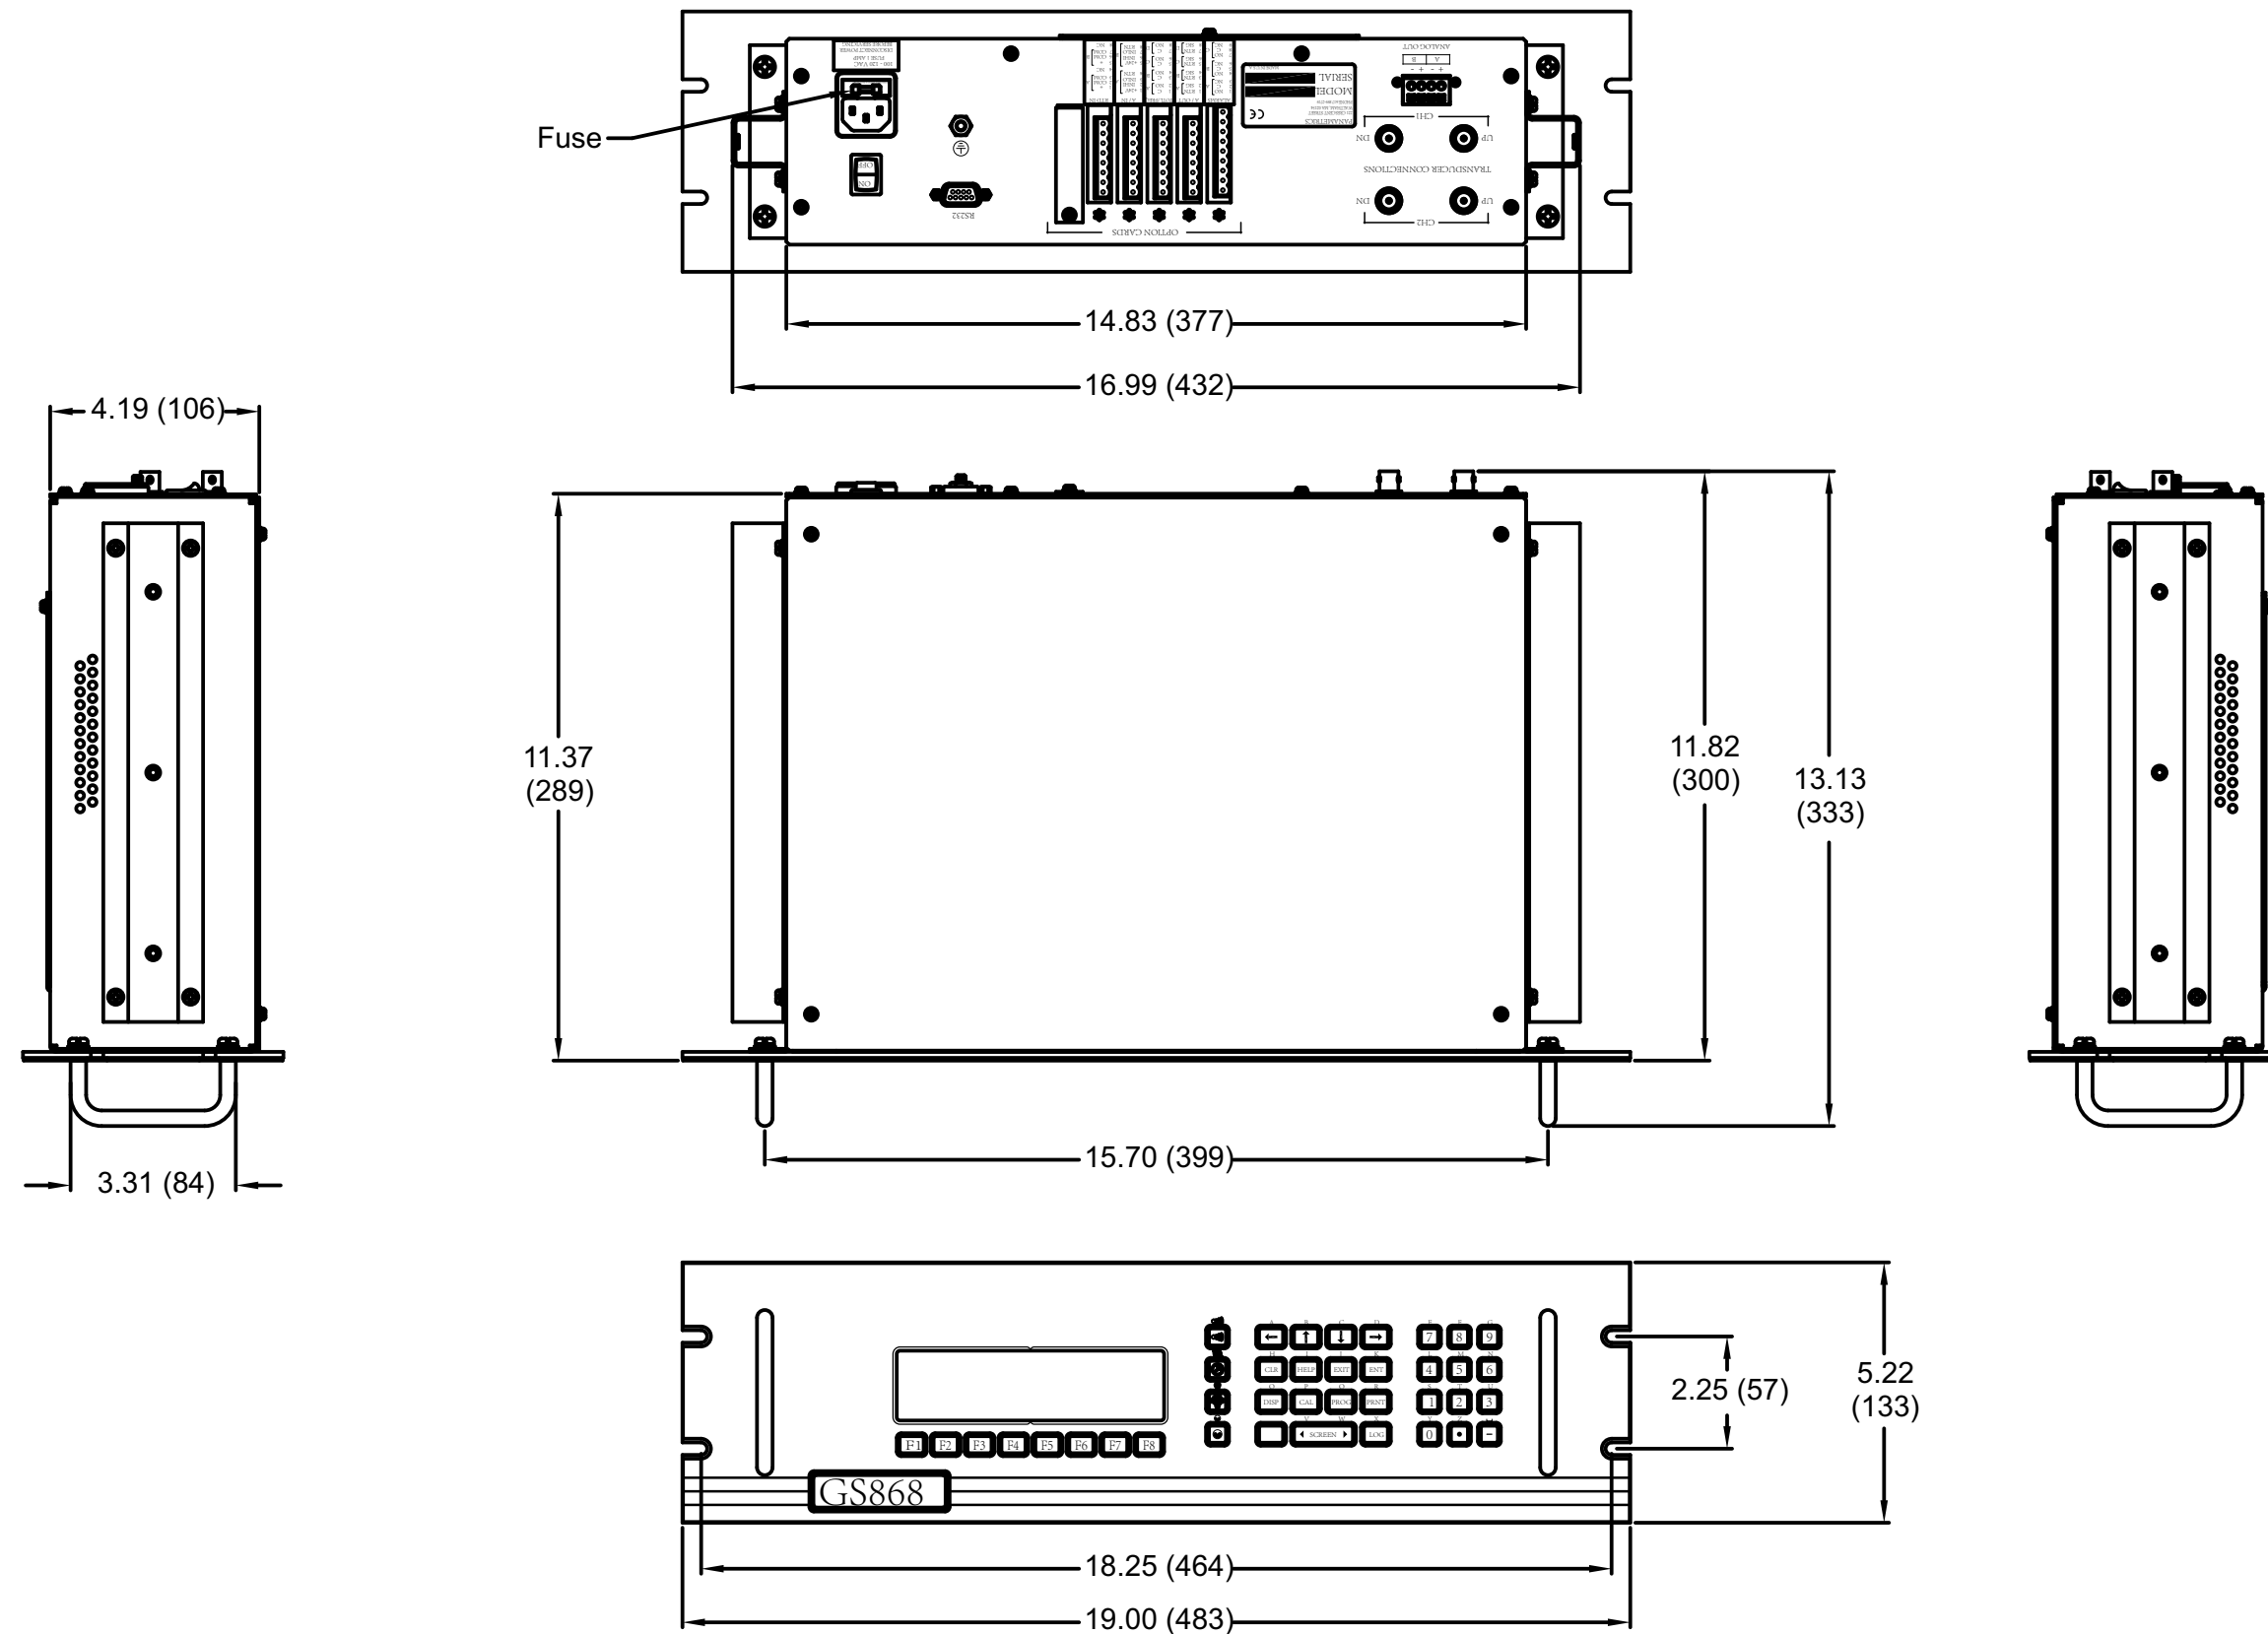
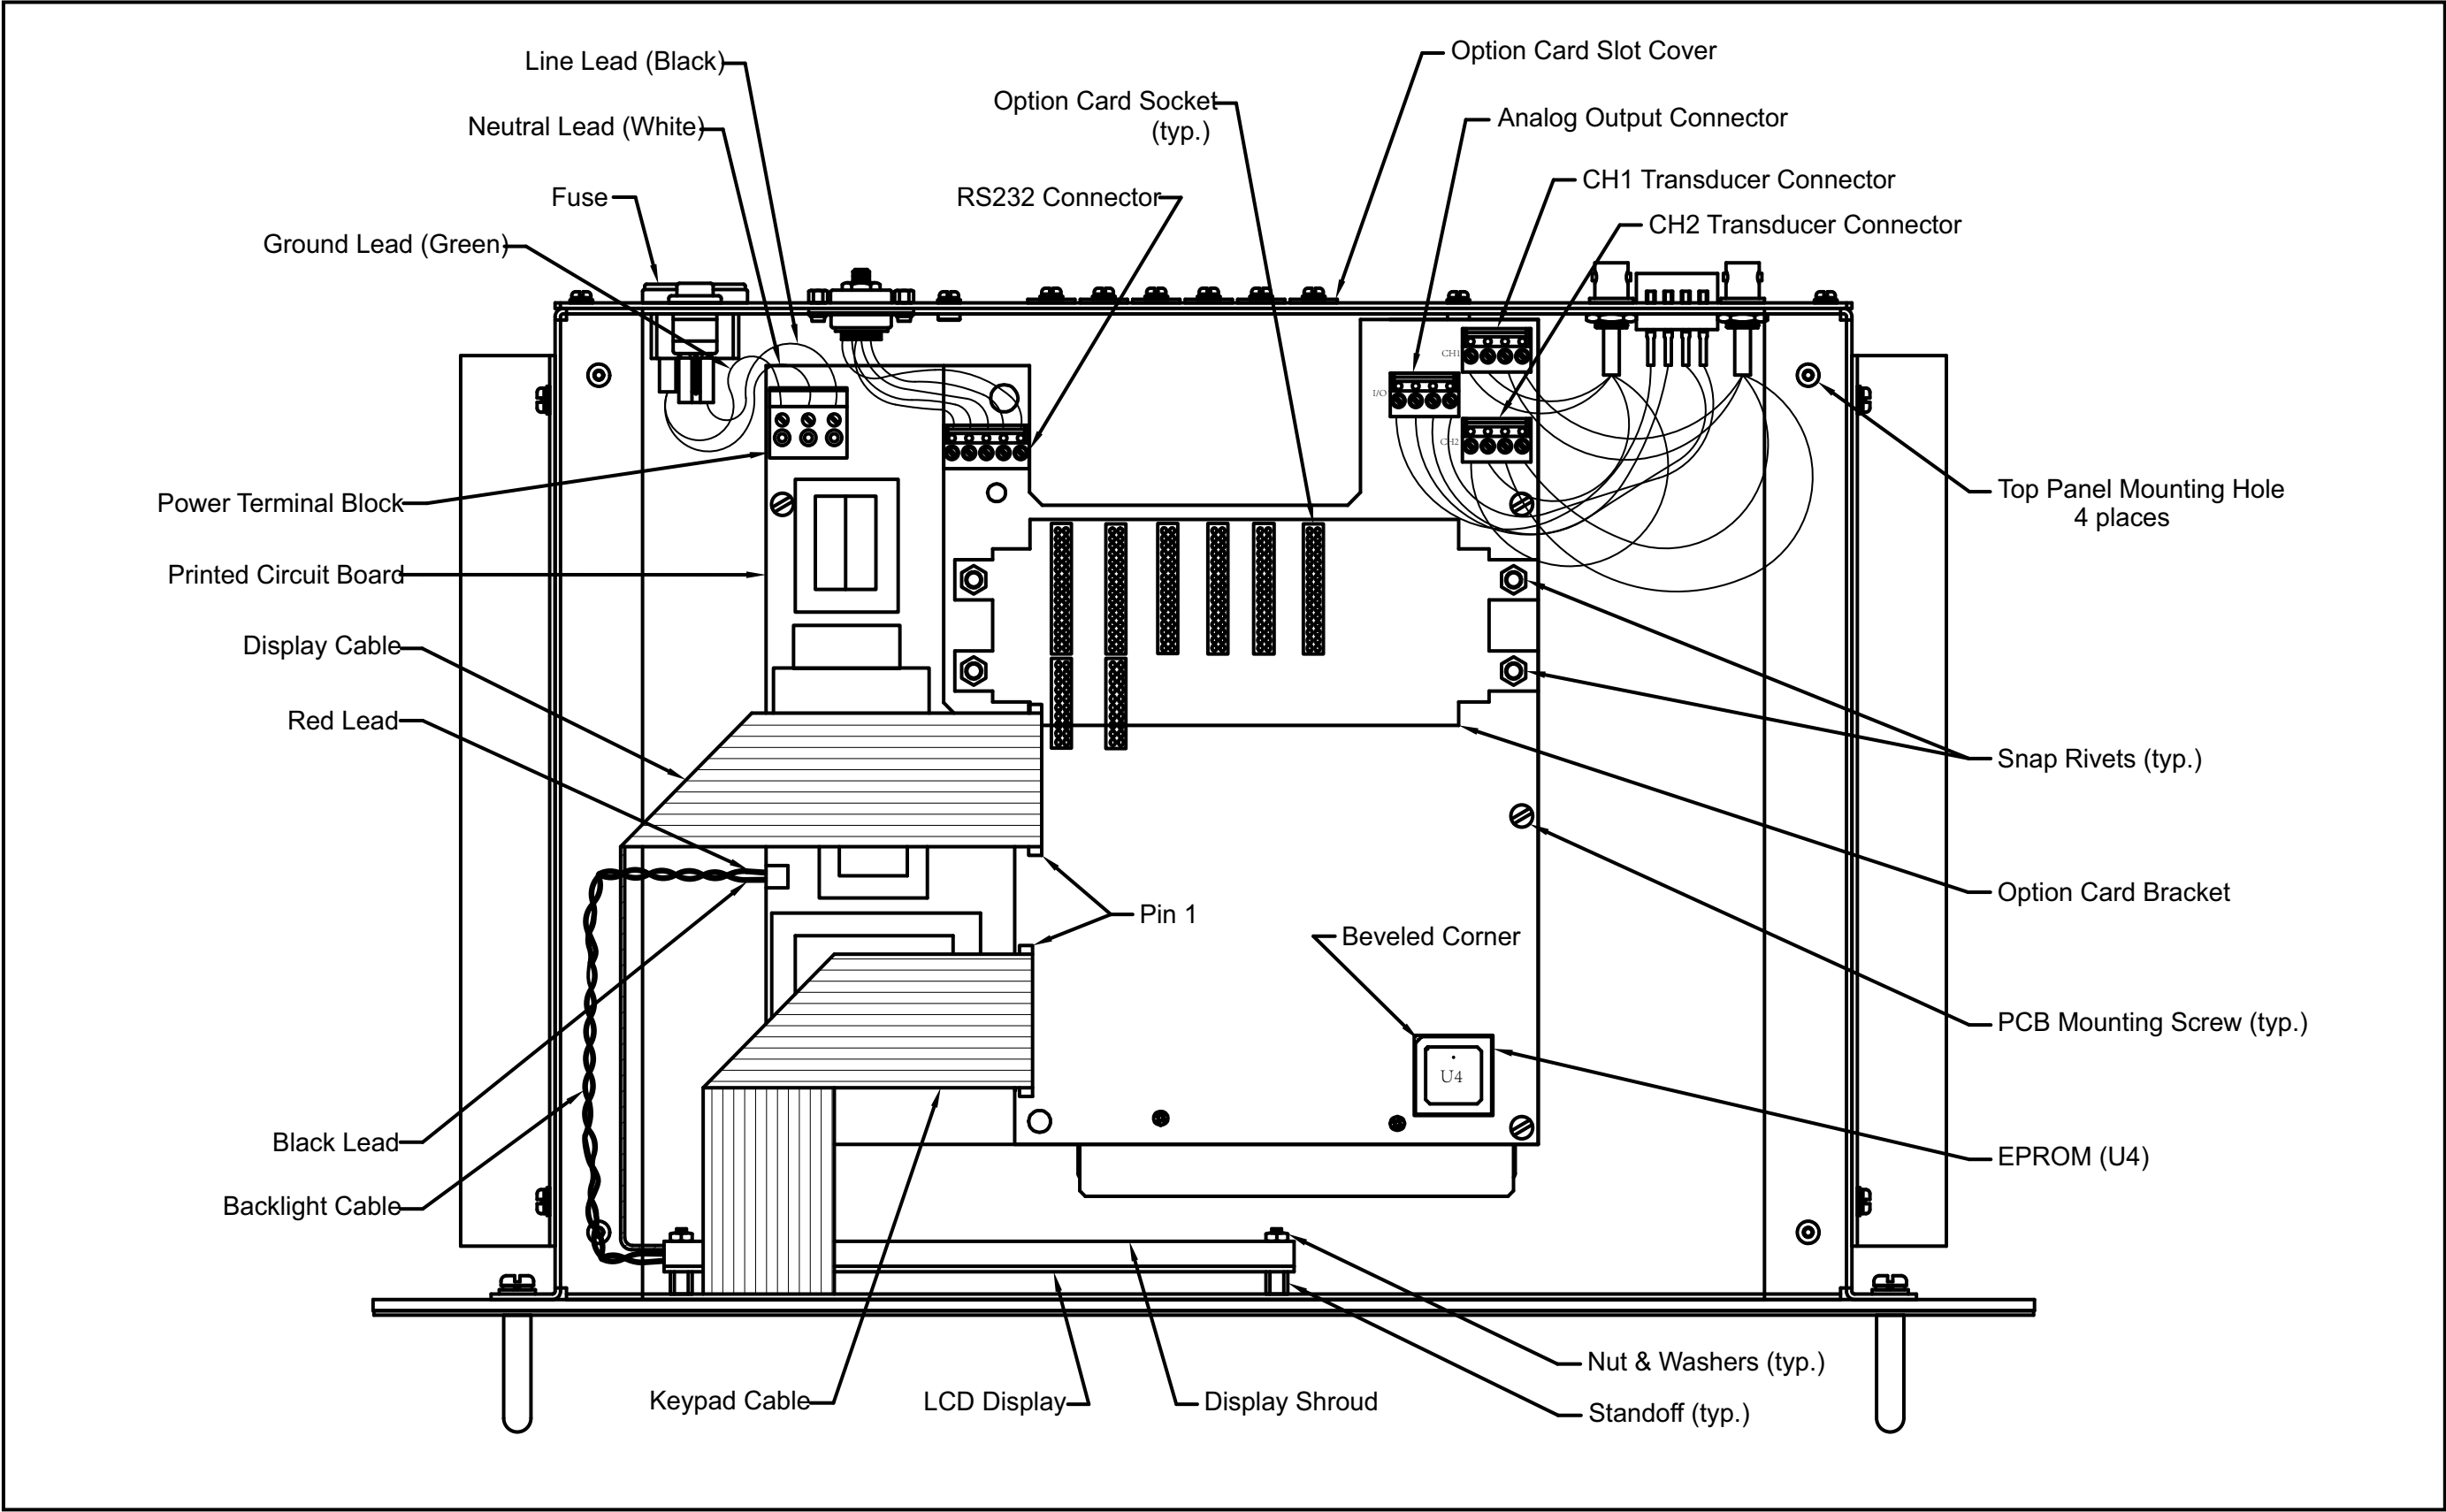

Figure 10: Model GS868 Rack Mount Enclosure Dimensions - (ref. dwg #/12-10/8)
Figure 11: Model GS868 Rack Mount Console Assembly - (ref. dwg #705-849)
Refer to *Figure 10 on page 51* and *Figure 11 on page 52* for the location of the relevant components, while completing the following procedures. If the top panel of the meter is accessible, service may be performed without removing the meter from the rack. Otherwise, disconnect all rear panel electrical connections and remove the meter from the rack before proceeding.
If it has been determined that the fuse in the Model GS868 requires replacement, refer to *Figure 10 on page 51* and *Figure 11 on page 52*, and complete the following steps:
Refer to *Figure 11* on page 52 and complete the following steps:
EPROM replacement may be required to replace a defective chip or to upgrade to a newer software version. To replace the EPROM, refer to *Figure 11* on page 52 and complete the following steps:
To replace the LCD display, refer to *Figure 11 on page 52* and complete the following steps:
Refer to *Figure 11 on page 52* and complete the following steps:
5. Install the **RS232**, **ANALOG OUT** and **TRANSDUCER** connectors onto the printed circuit board at the locations indicated in *Figure 11 on page 52*. Make sure the marked pin #1 sides of the connectors face the right side (keypad side) of the enclosure.